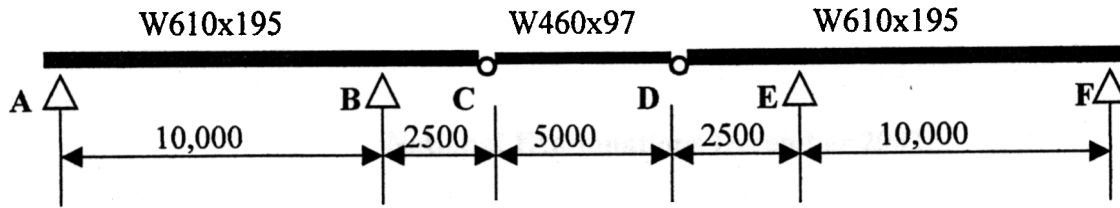

Figure A1
- A1 The beam shown in Figure A1 is simply-supported at A, B, E and F, is pinned at C and D and has a laterally supported top flange along its entire length. AC and BF are W610x195 and CD is W460x97, all beams being G40.21-M350W. There is a uniformly-distributed dead load of 50 kN/m over the entire beam and a uniformly-distributed live load w_L kN/m that can be placed anywhere along the beam. Calculate the maximum value of w_L permitted on the beam and show on a sketch where this load would be located.
- A2 The beam shown in Figure A1 is supported on HSS 203x203x11 G40.21-350W columns at A, B, E and F. The columns are laterally unsupported over a height of 5000 mm and may be considered pin-ended.